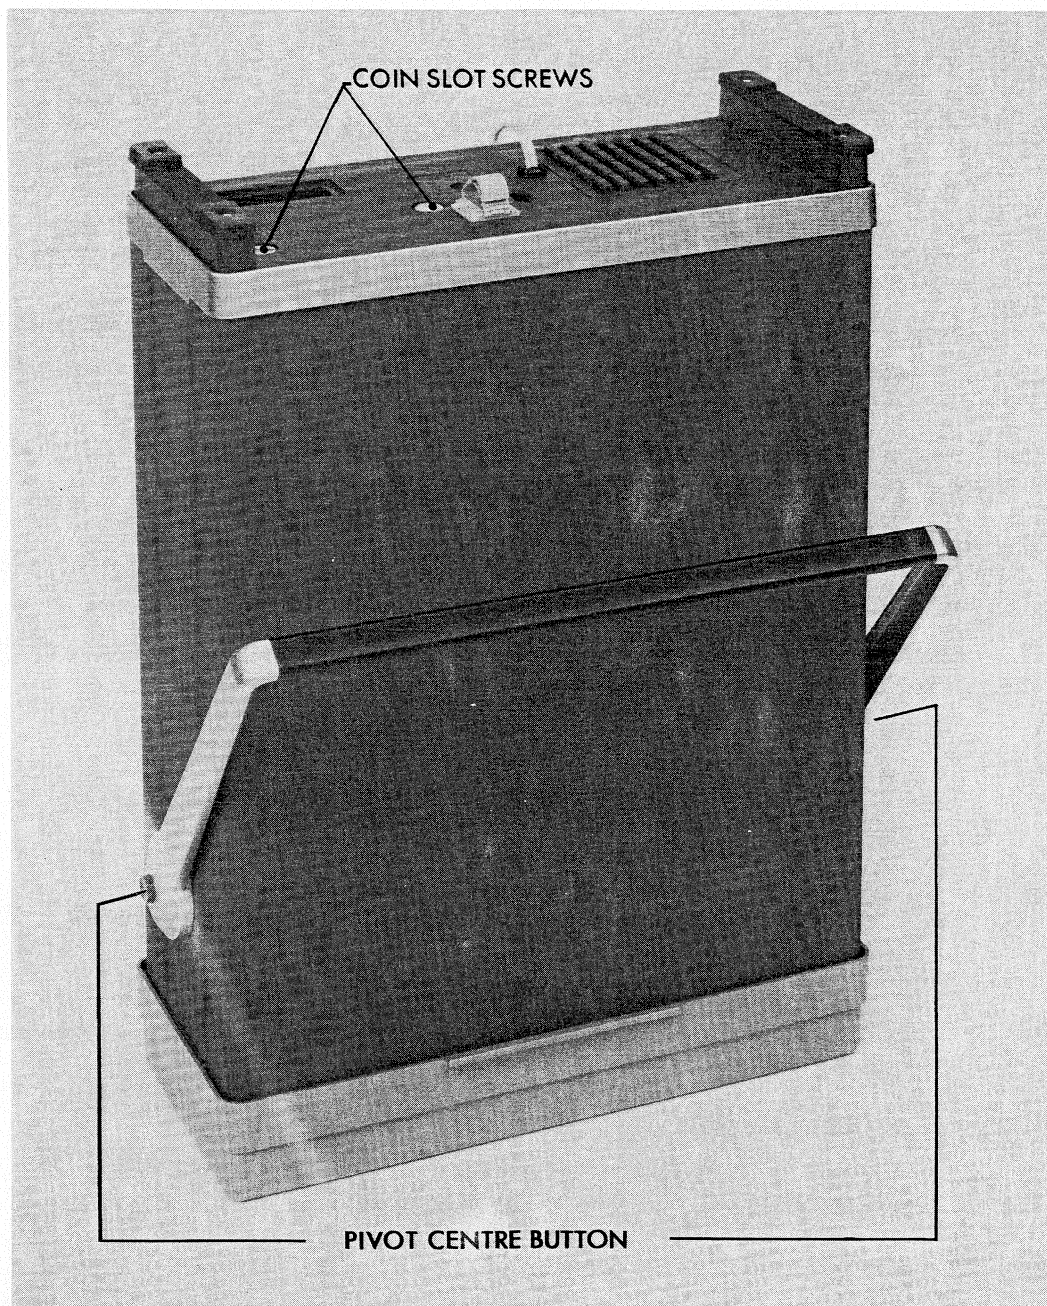

Fig. 3.2. Removing the instrument covers and the carrying handle.
- hinge the carrying handle clear of the front cover; to this end, push both pivot centre buttons (Fig. 3.2.).